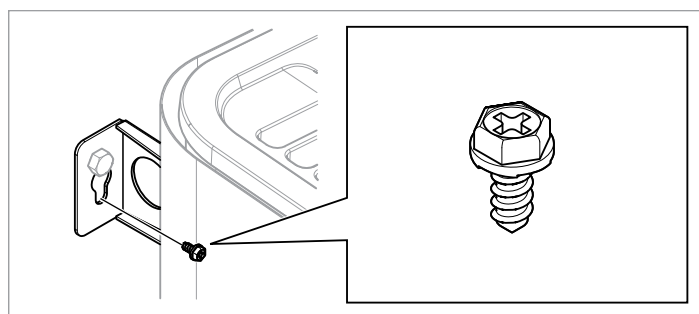

Figure 11: Lock screw for bracket
9. Lock the heater into place with the lock screw see Figure 11.